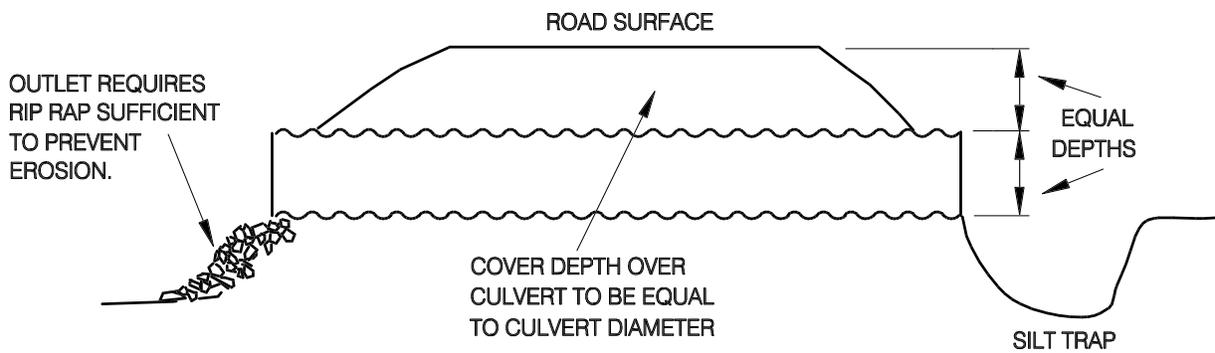

FIGURE 8
44. Culverts on Crown Land (refer to Figure 8)